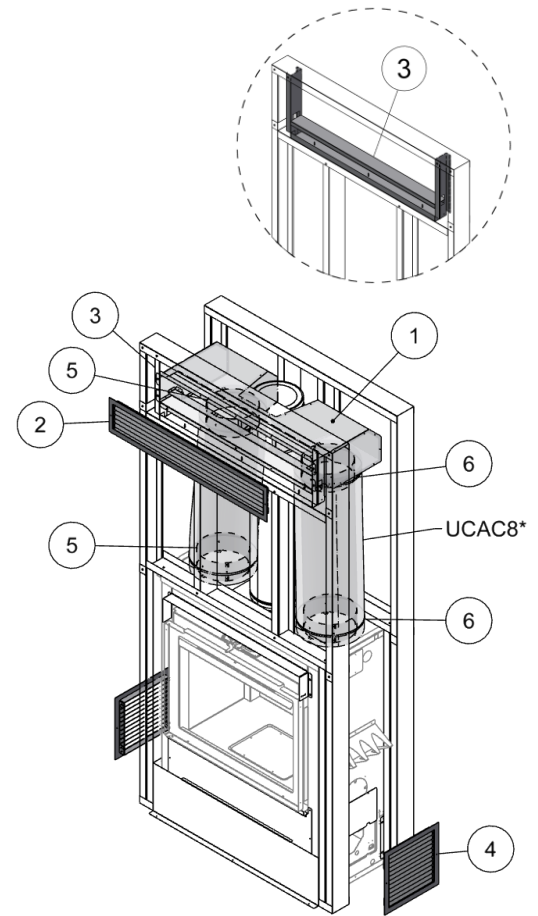

Figure 3-18: Astra Duo 8" Single Linear Gravity Duct Installation with Outtake. (FOR 6" CHIMNEY ONLY)
2. Determine the location of the air outtake within the framing and permit a rectangular opening of 12" (H) for the 32" Louver Framing Bracket (Item 3 of Figure 3-18). Note that a minimum distance of 3.75" is required from the ceiling (refer to Figures 3-13 and 3-24). Please note that the air outtake can be installed in the same room or in a different room.
3. Within the outtake opening, fasten the 32" Louver Framing Bracket (Item 3 of Figure 3-18). Fasten the 32" Louver Diffuser (Item 1 of Figure 3-18) within the 32" Louver Framing Bracket with the 8" Duct Adapters (Item 5 of Figure 3-18) facing the downward position.
4. Measure the distance between the 8" Duct Adapters on top of the unit to the 8" Duct Adapters on the 32" Louver Diffuser and cut the 8" Insulated Flex Duct (Item UCAC8 of Figure 3-18) to the necessary lengths.
5. Complete the connections by sliding the 8" Insulated Flex Ducts over the 8" Duct Adapters and secure the connections with the 8" Worm Gear Clamps (Item 6 of Figure 3-18).
6. Install the 32" Louver Grid (Item 2 of Figure 3-18) and the 10" X 10" Louver Grids (Item 4 of Figure 3-18) once the chase has been completed (refer to Section 3.7).